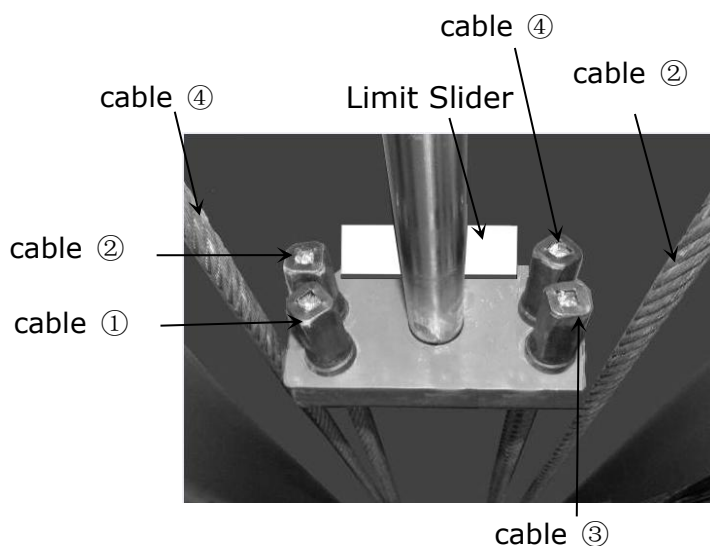
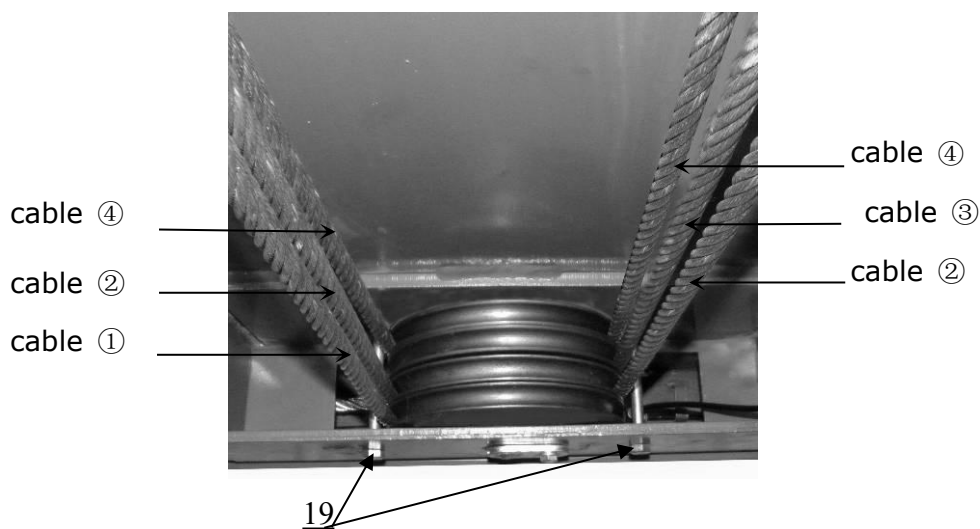

Fig.28
Fig.29
3. Illustration for platform cables (See Fig. 28, Fig.29, Fig.30)